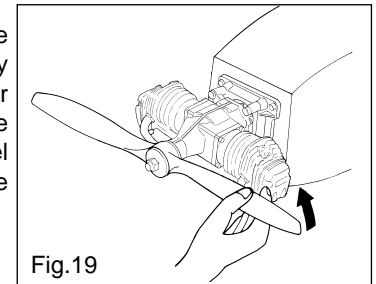

Fig.19
4. Release the choke control and immediately turn the propeller counter-clockwise several times so that fuel is drawn well into the cylinders (Fig.19).